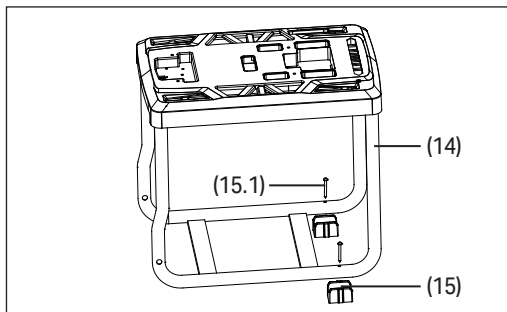

Fig.1
6.1 Fitting the Support Feet (Fig.1)
- Fit the two support feet (15) to the base frame (14) using the two 5 X 45mm screws (15.1).